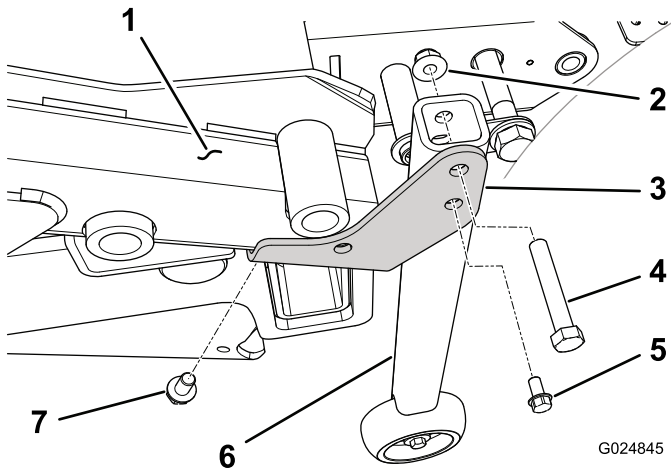

Figure 99
6. On traction units that have a serial number greater than 313000001, install a conversion bracket (right or left hand) to the under side of the appropriate rear corner of the deck frame with a self-tapping screw, 3/8 x 5/8 inch (Figure 99). The bracket is to point toward the end of the rear frame.
7. Install the vertical tube support assembly to the conversion bracket (right or left hand) on each corner of the deck frame with a 3/8 x 2-1/4 inch screw and 3/8 inch flange nut (Figure 99).